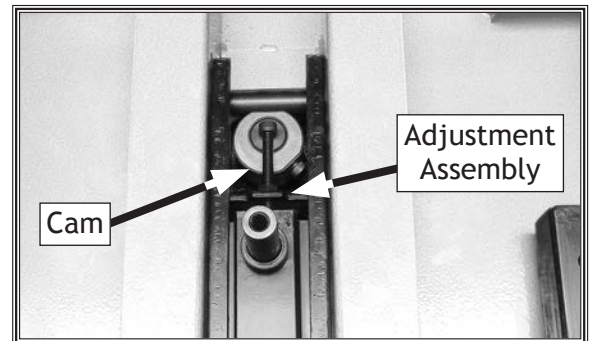

Figure 85. Lubrication locations for tension adjustment assembly (wheel removed for clarity).
3. Use a rag and mineral spirits to wipe off any grease and sawdust build-up on blade tension adjustment assembly and tension lever cam (see **Figure 85**), then apply thin coat of lubricant to these areas.